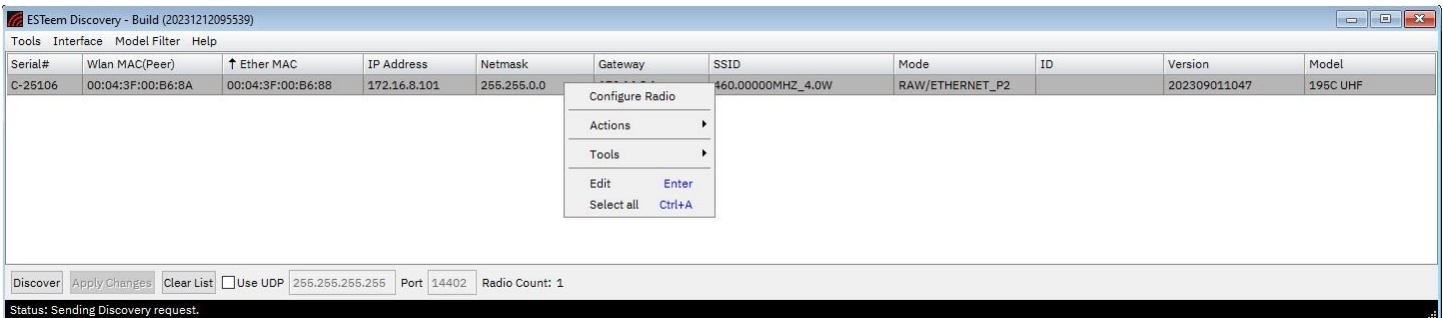

Figure 3: Right-Click Menu
- If changes were made to the IP address, you will need to press the 'Discover' button again to show the changes. Right-click on the ESTeem radio (Figure 3) and select "Configure Radio" option to begin programming.